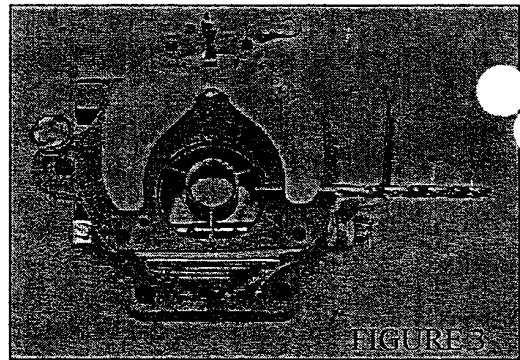

FIGURE 3
- 3.4 The float setting is established as shown in Figure 3 with 13/64" clearance between the float and gasket measured near the outer end of each float.
- 3.6 To adjust the float properly it is suggested a 7/32" drill rod be used as shown in Figure 3 to measure the adjusted clearance between the throttle body to bowl gasket and float, measured near the tip of each pontoon.